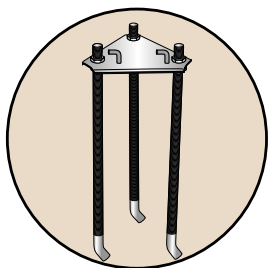

Fig 1,
1. Check the contents. Assemble the hinging plate onto the 3 foundation bolts with the flagstaff hinging lugs uppermost and lock into position with the 3 flat nuts as supplied. (See Fig 1)
6. Remove the bolt from the Rotating arm joint, fit to the top of the pole. (See Fig 1). (If tight, it may require gently taping with a hammer).